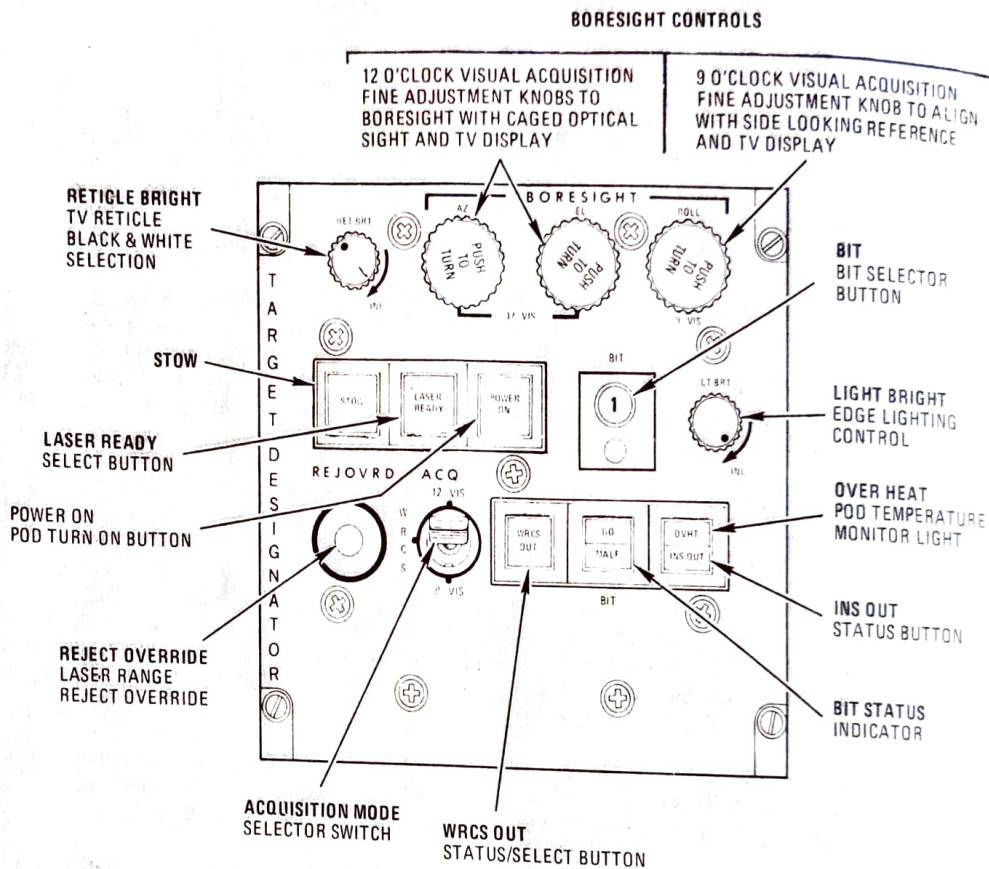

Figure 13, PAVE SPIKE Control Panel
d. PAVE SPIKE Control Panel (TDS Control). This panel contains the primary switches necessary to operate the PAVE SPIKE system. The panel is located in the rear cockpit below the DSCG scope and just forward of the control stick. See Figure 13.
(1) POWER-ON Button (and Light). When this two-position switch is depressed and released, 28- and 115-volt aircraft power is applied to the target designator system and the POWER ON light and the STOW Light (if pod head was stowed when power was applied) illuminate. When pressed and released to turn the system off, the POWER ON light remains on (if the pod was in the unstowed position) until the pod head is stowed, the filter wheel is in maximum density position, and the visor is closed. Power is then disconnected, and all indicator lights turn off. If the pod was stowed when the power button was positioned to off, the power is removed from the system immediately.
(2) STOW Button. This switch alternately stows and unstows the pod head. The pod head is stowed when the STOW button is illuminated. When the Stow Button is pressed and released, the pod unstows, the STOW light extinguishes, and the head rolls to the position selected by the Acquisition Switch on the PAVE SPIKE Control Panel. The next time the Stow Button is pressed and released the pod head stow sequence begins. The stow sequence includes: rolling the pod head to the stow position, positioning the filter wheel to maximum density, and positioning the visor over the optical window. The stow sequence requires approximately 5 seconds. Note that the pod head remains in the stow position (160° on the LOS pointer) only while the POWER ON button is illuminated. When the POWER ON light is off, the pod head is free to rotate; but the visor and filter wheel remain stowed.
(3) LASER READY Button. This switch must be depressed and lit before the laser can be fired. The switch serves as a laser safety interlock, the LASER READY light remains off (after button depressed ON) until the fire interlocks are satisfied: nose